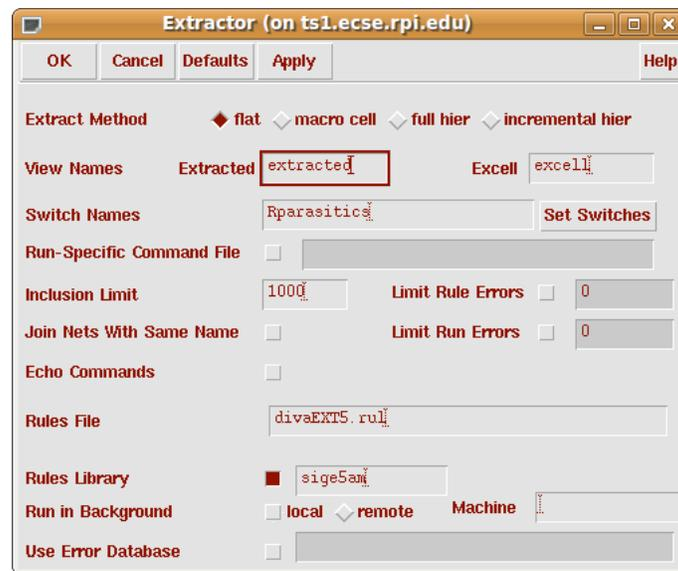

Figure 7.1: Extractor Window.
3. Run **LVS** again (see procedure following Figure 7.1, but change the extracted **View** file to the new name if it was changed from **extracted**). After **LVS** is done, click **Build Analog** (*Artist LVS* form from **Verify** → **LVS...**) and for **Extracted Parasitics** choose “**Include All**” in the *Build Analog Extracted View* form. Then select **OK**.